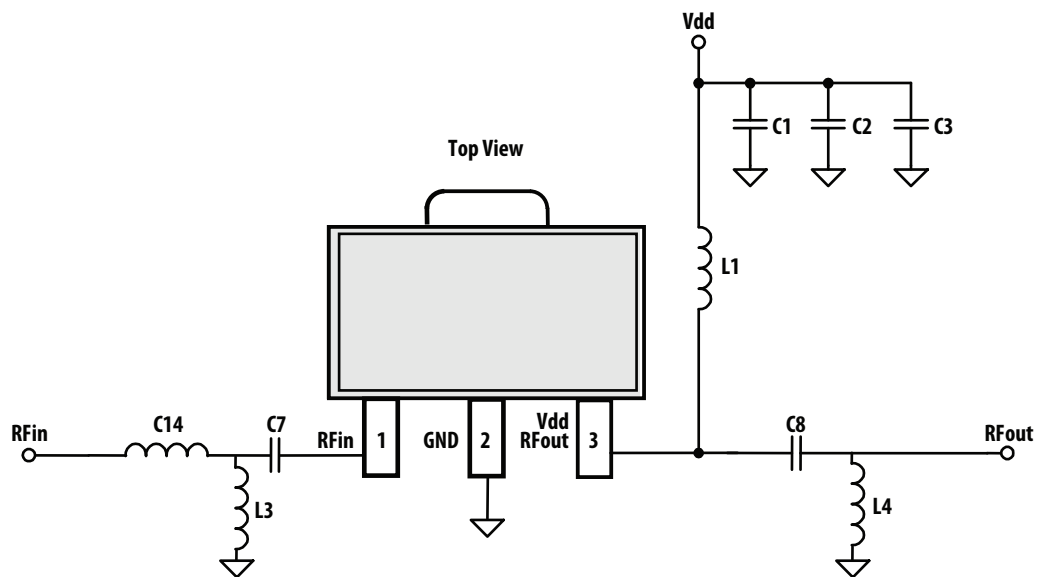

Figure 30. Application Schematic
1. Measurements obtained using demo board described in Figure 30 and 31. 3.5GHz data was taken with 3GHz - 4GHz Application Test Circuit and 5GHz data with 4GHz - 6GHz Application Test Circuit respectively.
$T_A = 25^\circ\text{C}$, $V_{dd} = 5\text{V}$, Input Signal = CW unless stated otherwise. Application Test Circuit is shown in Figure 30 and Table 1.
$T_A = 25^\circ\text{C}$, $V_{dd} = 5\text{V}$, Input Signal=CW. Application Test Circuit is shown in Figure 30 and Table 2.
$T_A = 25^\circ\text{C}$, $V_{DD} = 5\text{V}$, Input Signal=CW. Application Test Circuit is shown in Figure 30 and Table 2.
$T_A = 25^\circ\text{C}$, $V_{DD} = 5\text{V}$, Input Signal=CW. Application Test Circuit is shown in Figure 30 and Table 3.
$T_A = 25^\circ\text{C}$, $V_{dd} = 5\text{V}$, Input Signal=CW. Application Test Circuit is shown in Figure 30 and Table 3.